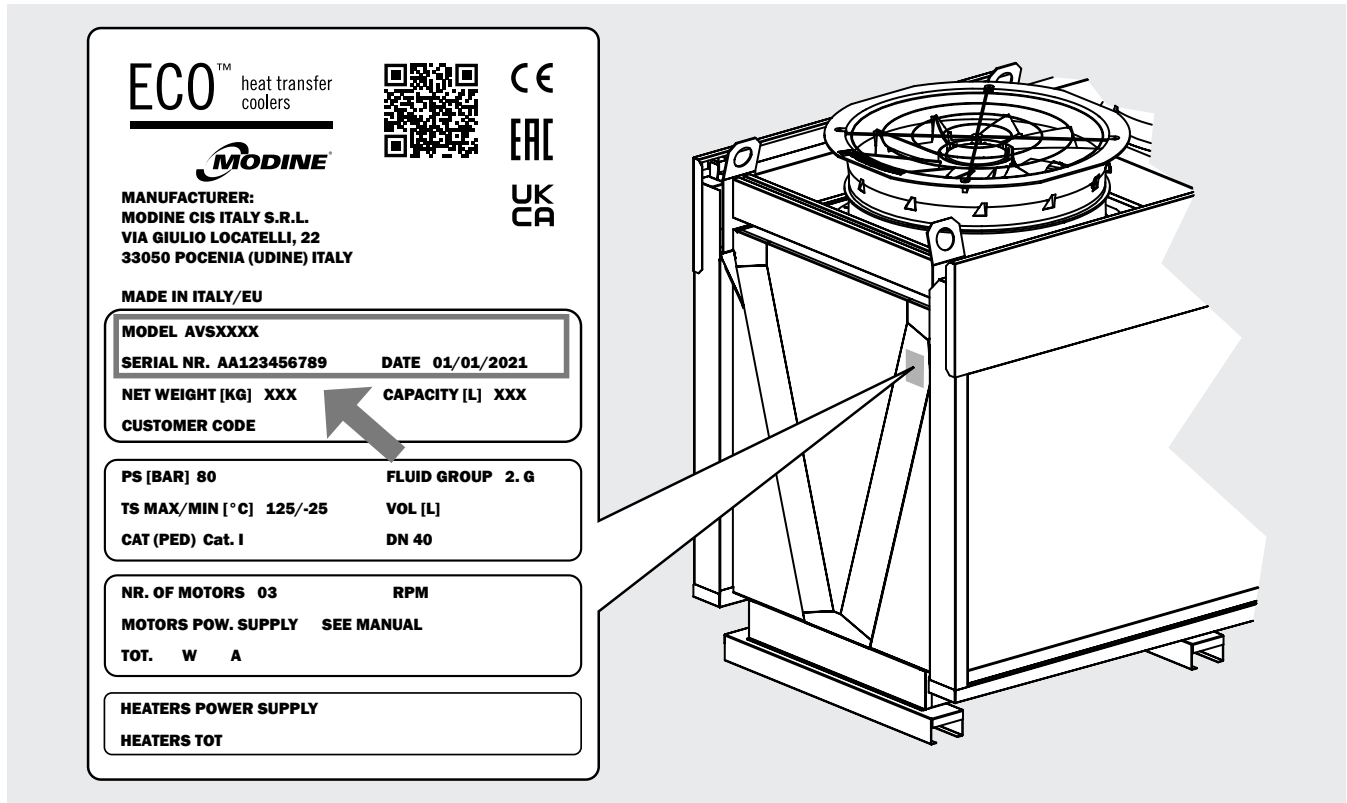

Figure 3
- 3.1 For any communication, request for assistance or spare parts, please provide the model name and serial number shown on the data plate, see Figure 3.